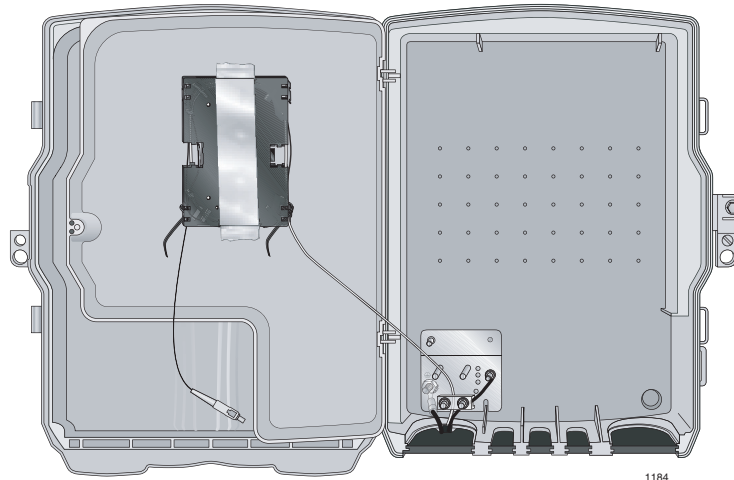

Figure 29. Securing the Plastic Splice Tray
10. Temporarily secure the splice tray to the inside of the inner cover with electrical tape until the gateway is installed, as shown in Figure 29.